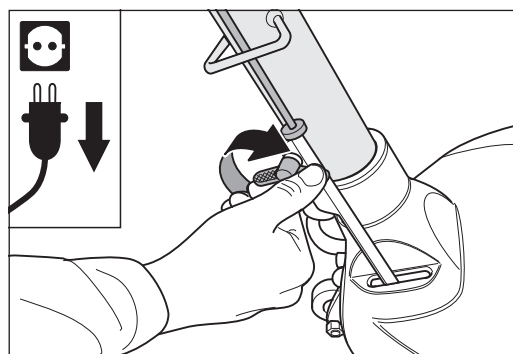
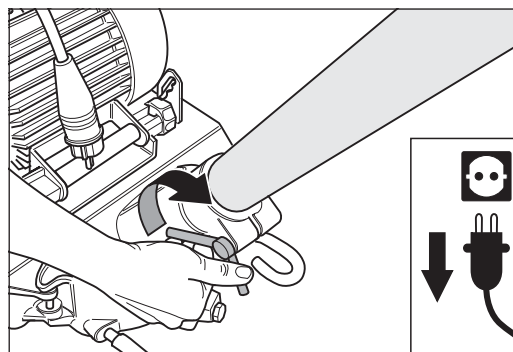

Fig. 8 After inserting the guide tube, carefully tighten the wing screw at the lower rod.
Fig. 9 After inserting the guide tube, carefully tighten the wing nut at the machine housing.
- 4 Carefully tighten the wing screw at the lower rod (Fig. 8) and the wing nut at the machine housing (Fig. 9).